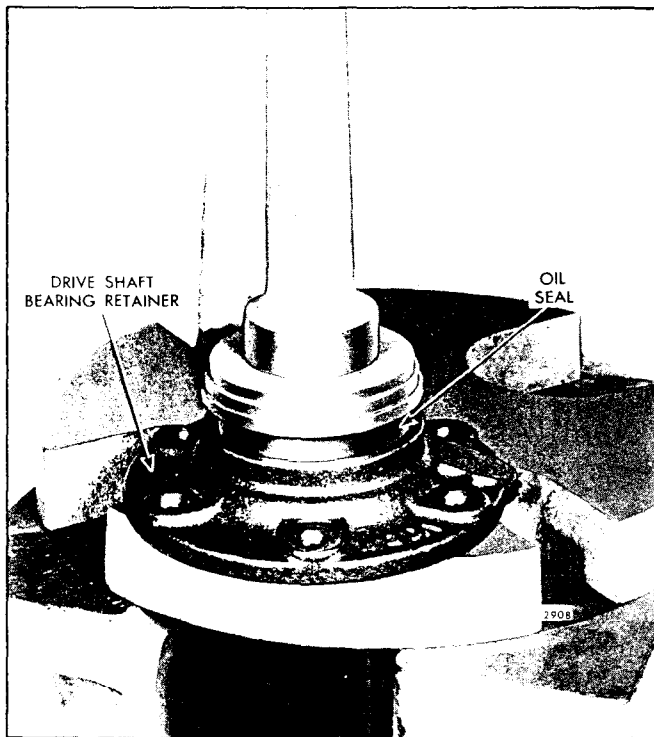

Fig. 96 - Installing Oil Seal in Drive Shaft Bearing Retainer
- d. Place a steel plate, or tool J 3154-04 with suitable plates, on top of the oil seal as shown in Fig. 96. Then press the oil seal straight into and flush with the outside face of the bearing retainer.